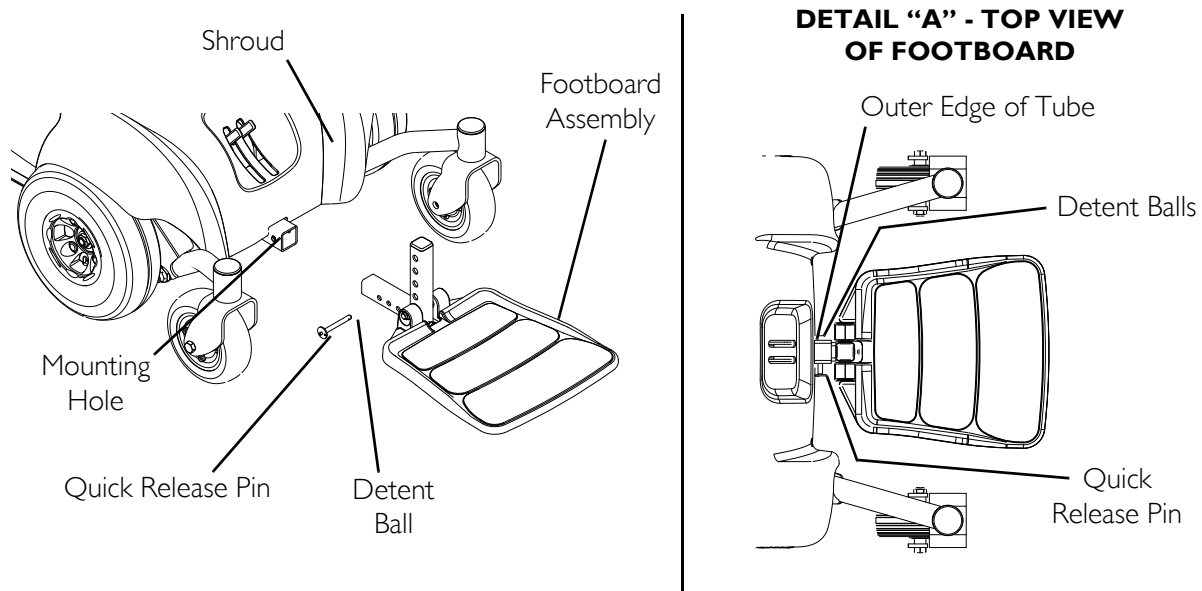

FIGURE 10.1 Removing/Installing the Footboard Assembly
NOTE: For this procedure, refer to FIGURE 10.1 on page 48.
2. Install the quick release pin by depressing the button while sliding the pin in. Ensure that the detent balls are engaged with the outer edge of the tube (Detail "A" of FIGURE 10.1).